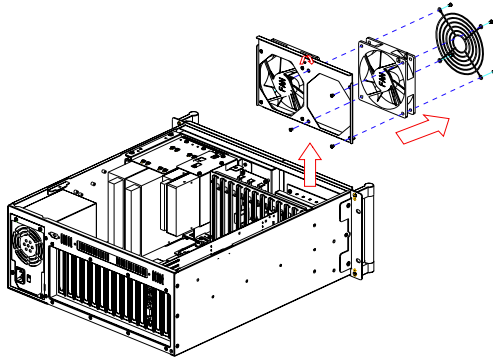

Figure 3.5: Replacing the cooling fan
5. Fix the new cooling fan on the fan guard and the bracket by screwing in the eight screws. (see *Figure 3.5*)